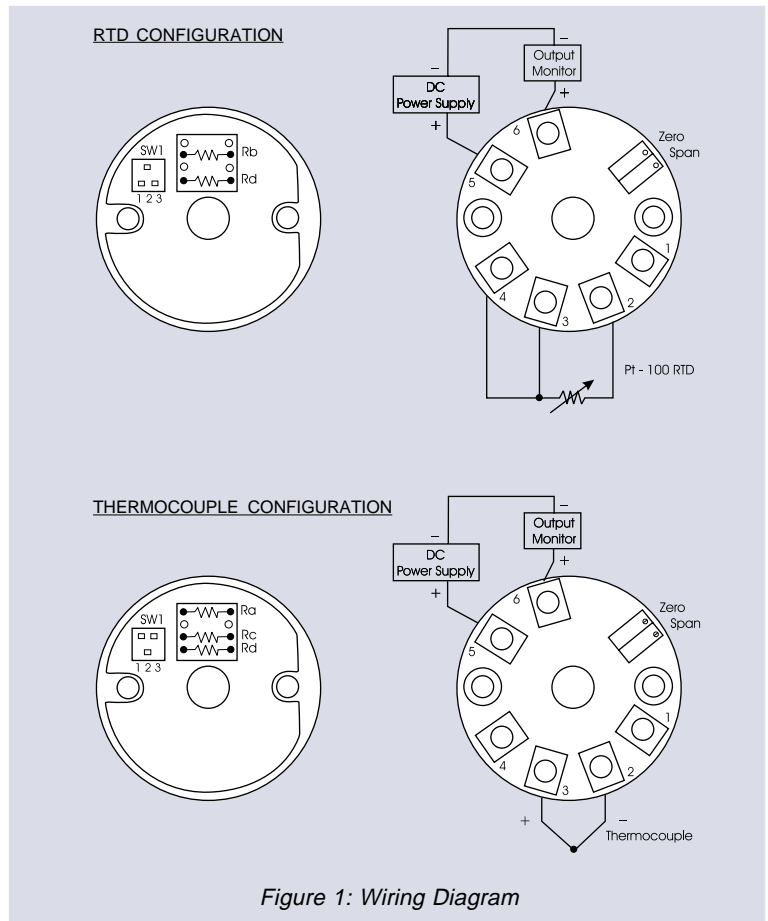

Figure 1: Wiring Diagram
1. Connect the input signal wires according to the interconnection diagram shown in Figure 1.
2. Connect the output signal wires to the controller or digital indicator with a power supply to create an output loop as shown in Figure 1. Observe proper polarity.